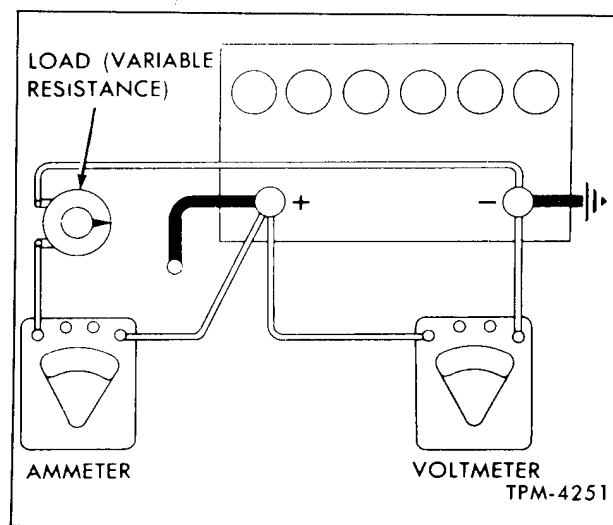

Figure 3—Battery Capacity Test (Typical Hook-Up)
1. Connect positive voltmeter and ammeter leads to battery positive post and negative voltmeter and ammeter leads to battery negative post (fig. 3). NOTE: Ammeter cable clips must contact battery posts; voltmeter cable clips must contact battery post or cable clamp, not the ammeter cable clips.